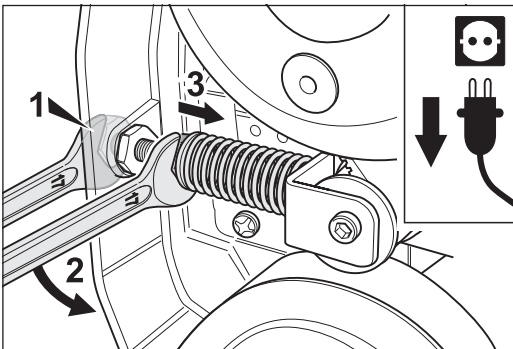

Fig. 81 Twist the clamping nut in order to tighten the spring.
- 3 Now tighten the spring using the clamping nut (fig. 81), whereby the spring must be tightened to the following length: